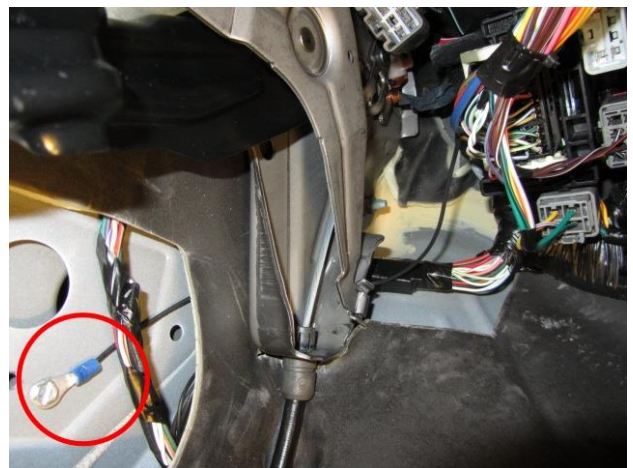

Figure 28. Dash harness ground to vehicle location (circled).
15. Route the ground wire behind the parking brake mechanism and attach to the A pillar as shown in Figure 28.